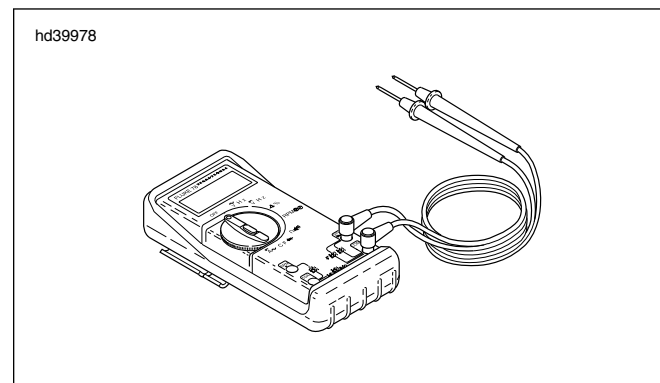

Figure 4-19. Fluke 78 Multimeter (DVOM) (Part No. HD-39978)
1. See Figure 4-19. Connect DVOM to wiring harness between the suspect connections. When diagnosing ECM connections, use a BREAKOUT BOX (Part No. HD-43876) to simplify the procedure. See 4.7 BREAKOUT BOX: ECM.